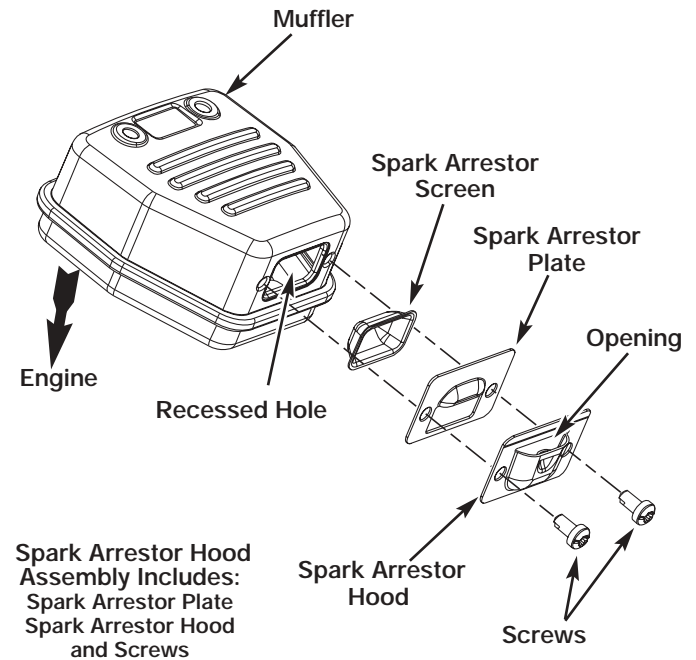

Fig. 65
2. Locate the muffler, but do not remove it. Find the two (2) screws on the bottom of the muffler (Fig. 65). These two screws hold the Spark Arrestor Hood Assembly and the spark arrestor screen to the bottom of the muffler. Remove the two (2) screws using either a torx #20 or flat blade screwdriver.
6. Place the spark arrestor plate on top of the spark arrestor with the "raised" side up and the opening facing towards the engine (Fig. 65).
7. Place the spark arrestor hood on top of the spark arrestor plate with the "raised" side up and the opening facing AWAY from the engine (Fig. 65). Verify that the exhaust will be directed AWAY from the engine.